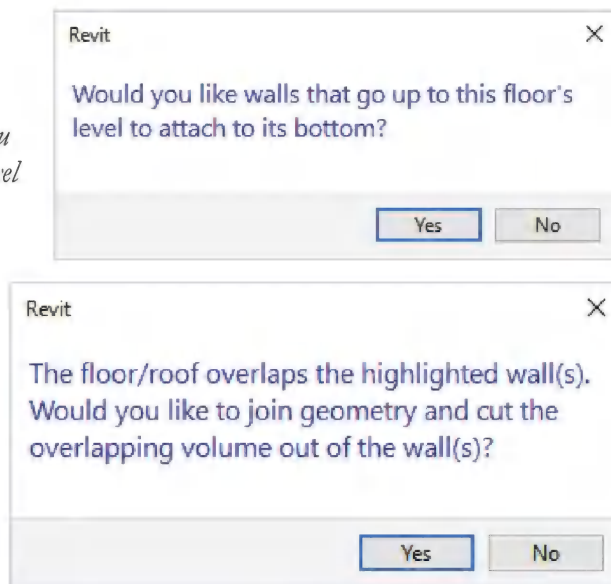

FIGURE 7-1.11 Finish floor prompts
38. Click **Yes** for the prompt to join the walls that overlap the floor system (Figure 7-1.11).